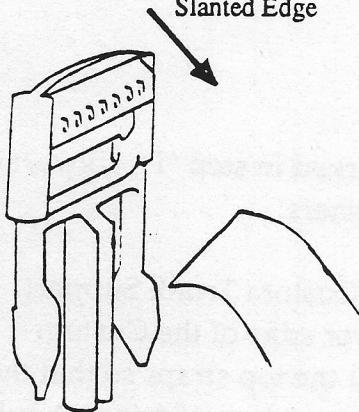
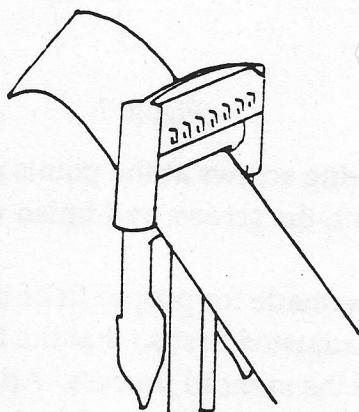
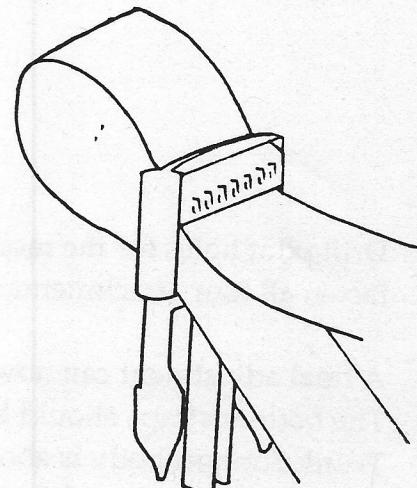

Figure 4
Figure 5
Figure 6
- f. Take the male portion of the buckle in hand and hold it with the slanted edge on top and facing the piece of dacron being held in the other hand (Figure 4). Feed one end of the dacron webbing through the buckle by sliding it through the bottom slot first (Figure 5) and looping it back through the top slot (Figure 6). (*If threaded correctly, the slanted edge will act as a "stop" for the dacron webbing when the buckle and dacron combination is held taut. If the dacron webbing pulls through and is not "stopped", the buckle was held incorrectly when threaded. Thread the male portion of the buckle again from the other side.*)